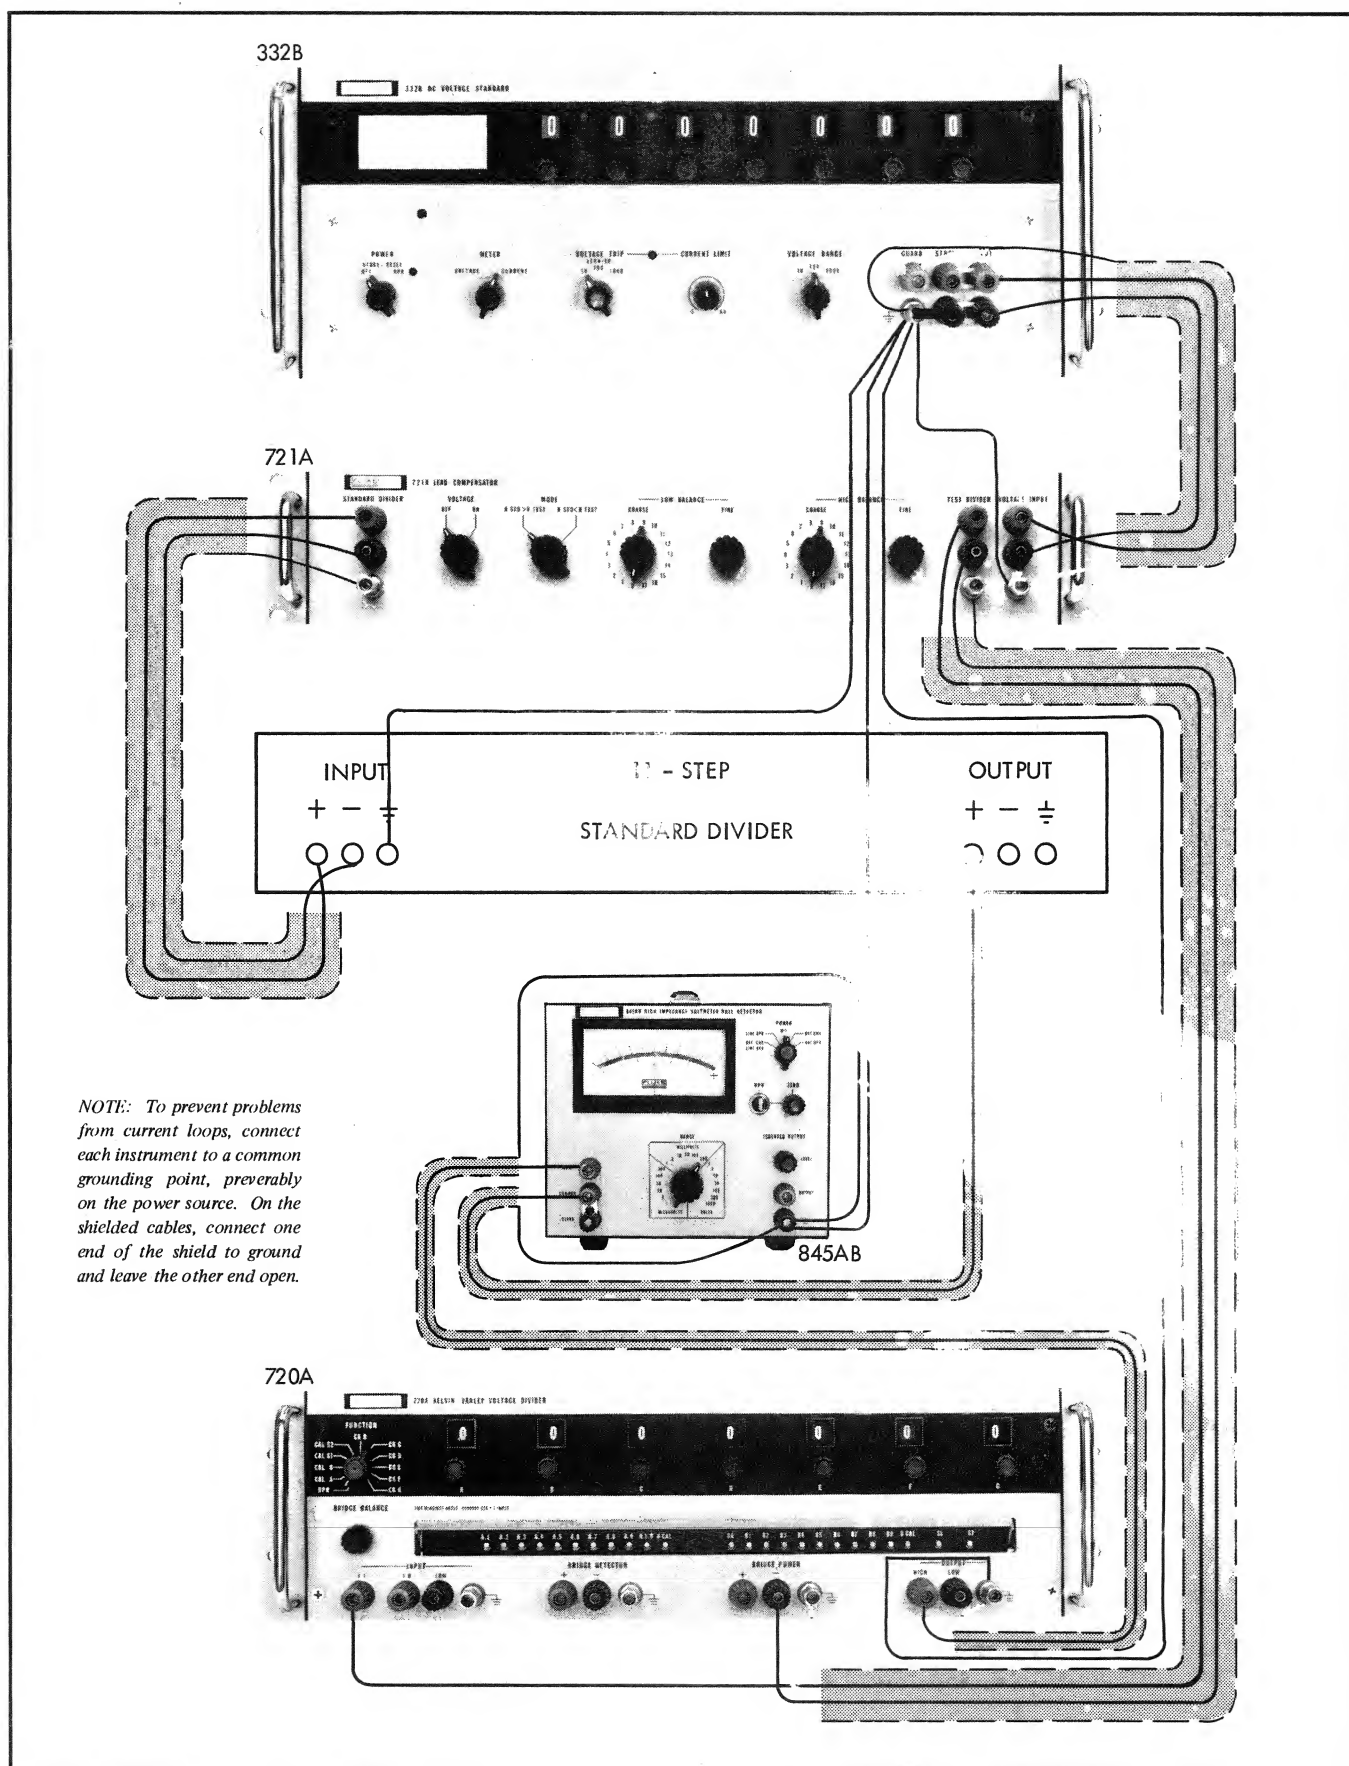
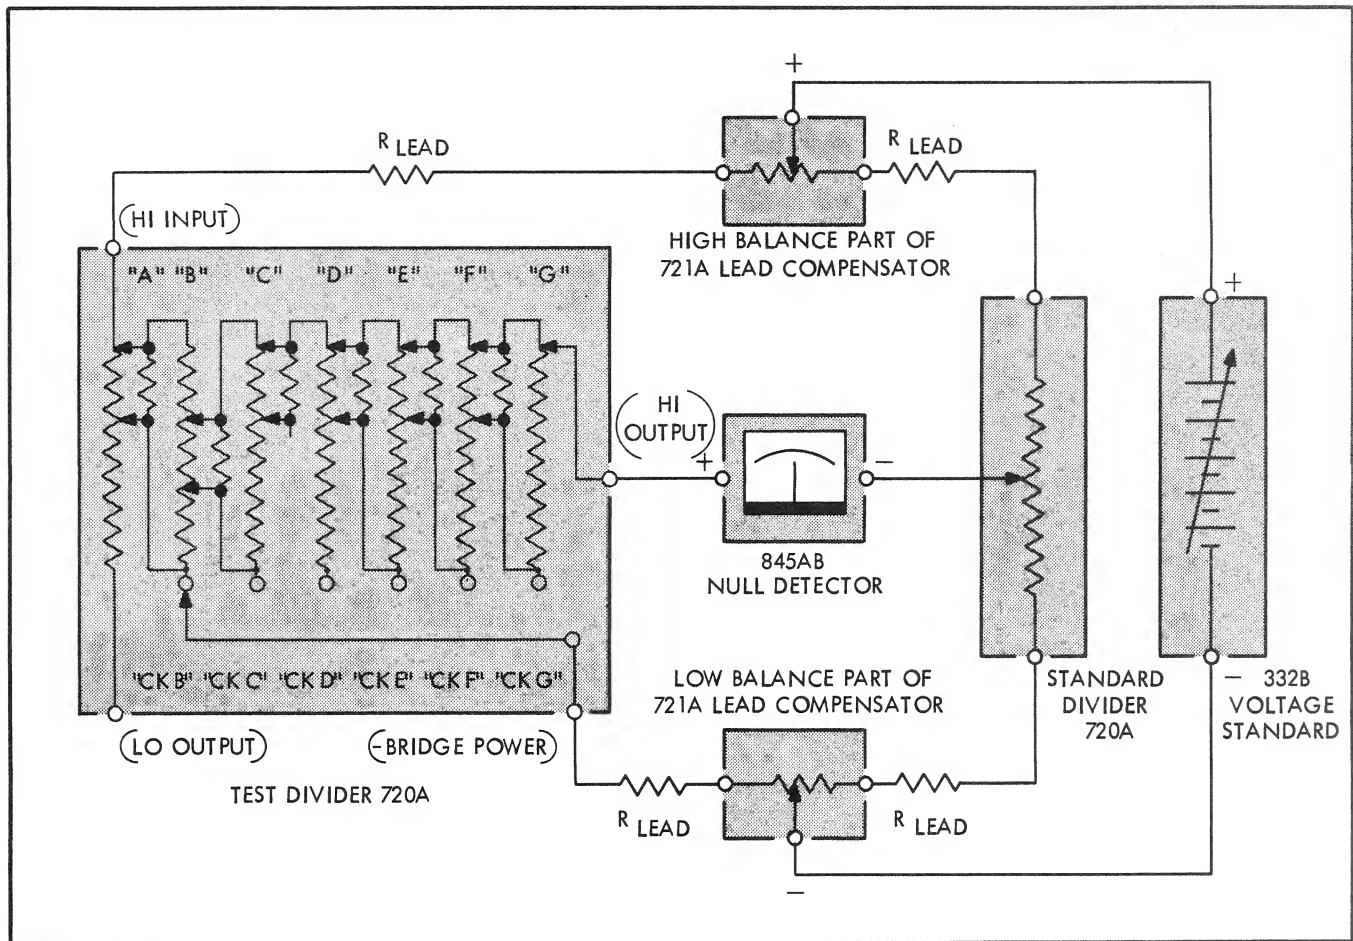

Figure 4-5. EQUIPMENT CONNECTIONS FOR DECADE LINEARITY TEST
Figure 4-6. SIMPLIFIED SCHEMATIC DIAGRAM OF DECADE LINEARITY TEST
- a. Change the test setup to that shown in Figure 4-5.
Figure 4-6 is a schematic diagram of the test set-up obtained by interconnecting the equipment as shown in Figure 4-5.